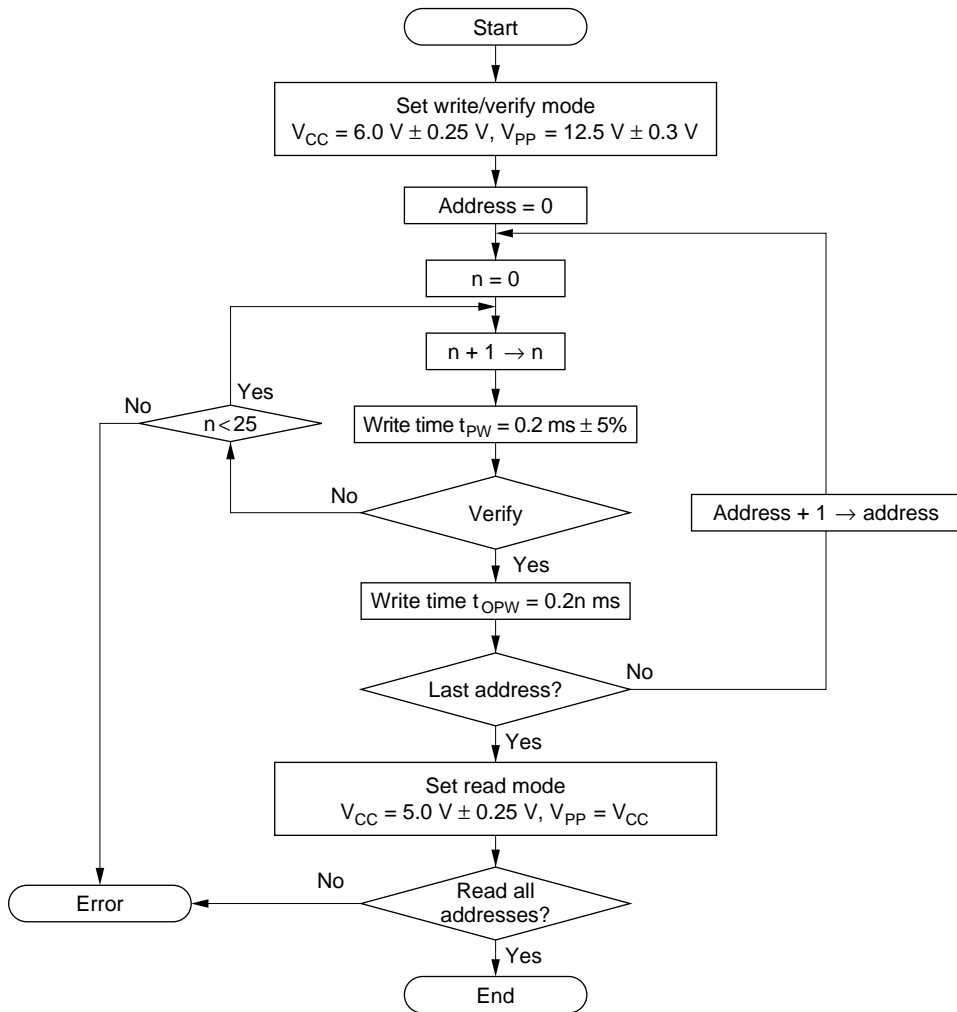

Figure 6.4 High-Speed, High-Reliability Programming Flow Chart
An efficient, high-speed, high-reliability method is available for writing and verifying the PROM data. This method achieves high speed without voltage stress on the device and without lowering the reliability of written data. The basic flow of this high-speed, high-reliability programming method is shown in figure 6.4.
*3 t_{OPW} is defined by the value given in figure 6.4, High-Speed, High-Reliability Programming Flow Chart.